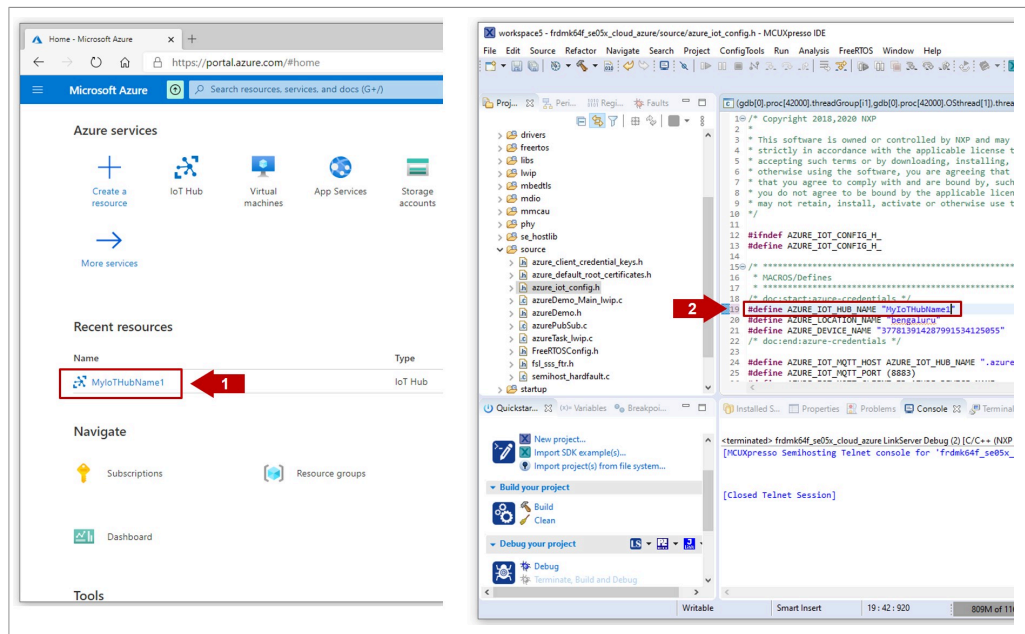

Figure 59. Change `#define AZURE_IOT_HUB_NAME`
- 2. Modify the `#define AZURE_IOT_HUB_NAME` macro definition to add your Azure IoT Hub name created in Section 3.5 as shown Figure 59:
- 3. Modify the #define AZURE\_DEVICE\_NAME macro definition to add your device ID created in Section 4.3.3 as shown in Figure 59: